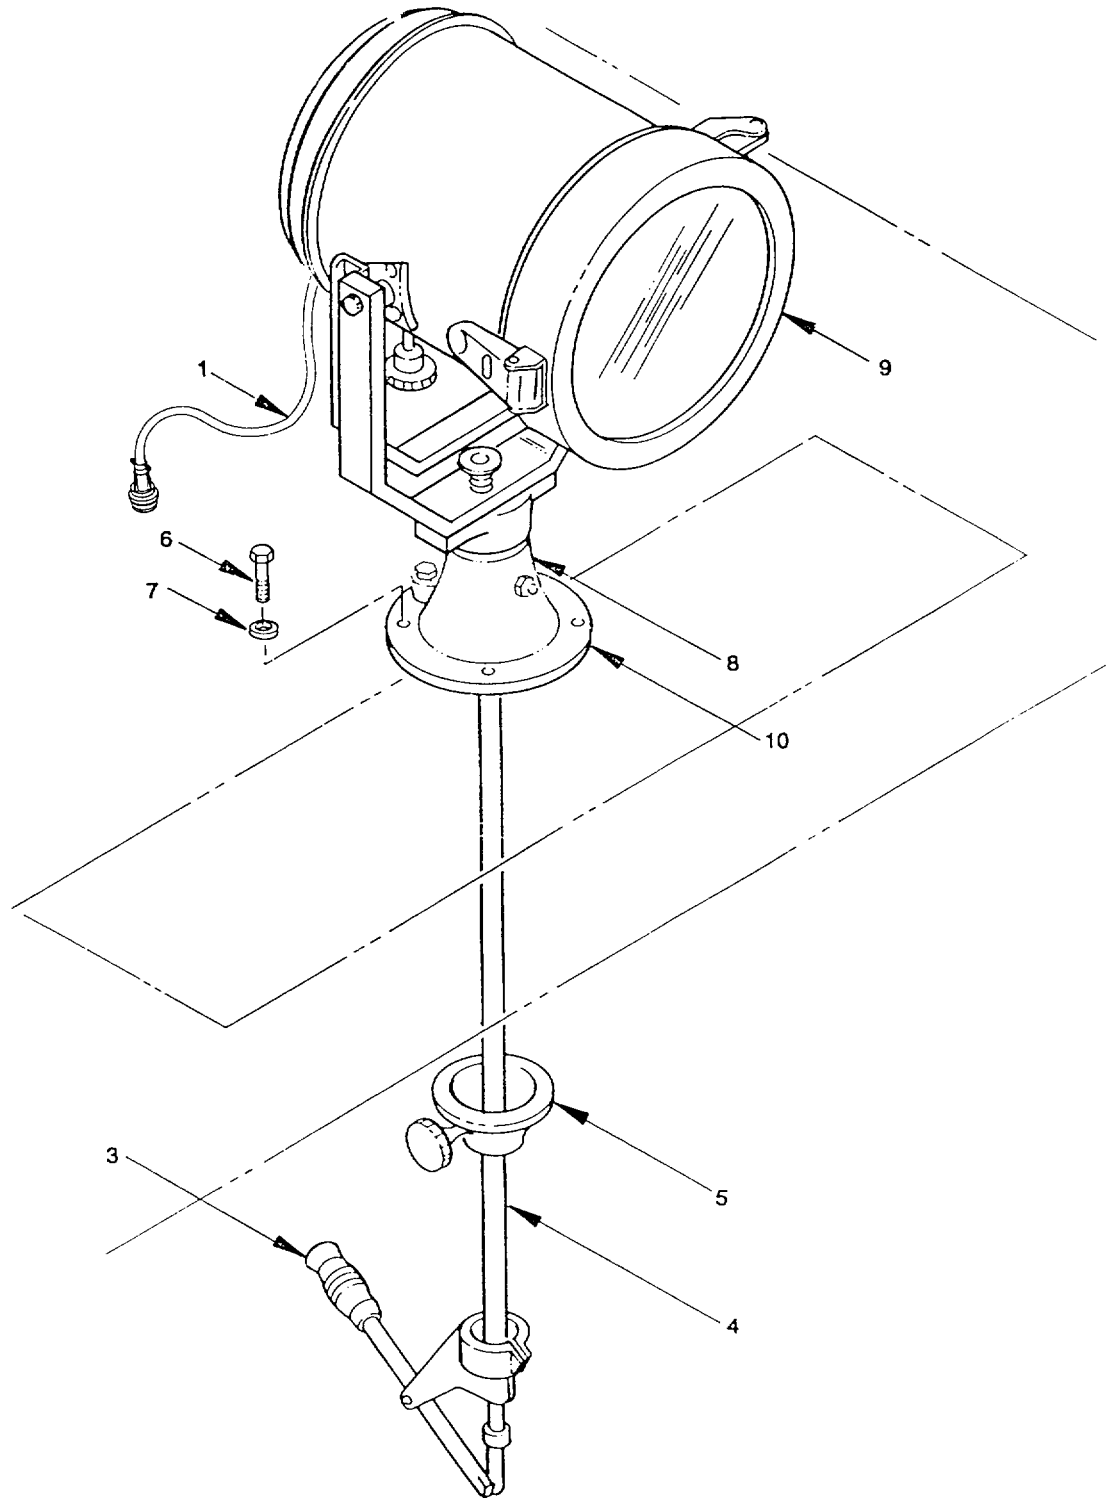

Figure 2-146. Spotlight. Remove/Install.
- (1) Monthly, lightly lubricate the connecting link (1), lever pin (2) and push-rod (marked "L") (3) of lever assembly with a few drops of machine oil.
- (2) Every six months, add grease through the grease fitting (4) provided in the roof flange. This will provide added water protection.
c. Remove. (figure 2-146)
- (1) Disconnect the electrical cable (1) to the spotlight (9) at the junction box JB1 (located inside the cab). Refer to Appendix G.
- (2) Remove the control lever (3) from the bottom of the spotlight control tube (4). Remove the lower flange (5) (located inside the cab) from the control tube (4).
- (3) Remove capscrews (6) and lock washers (7) securing the upper flange (8) (located on the roof of the cab).
- (4) Pull the spotlight (9), gasket (10), upper flange (8), and control tube (4) out of the roof of the cab.
d. Install. (figure 2-146)
- (1) Position the spotlight (9), gasket (10), upper flange (8), and control tube (4) in the roof of the cab. Replace capscrews (6), lock washers (7) and tighten to secure the upper flange (8) to the roof of the cab.
- (2) Position the lower flange (5) on the control tube (4) inside the cab. Replace the control lever (3) into the bottom of the control tube.
- (3) Connect the electrical cable (1) to the spotlight at Junction Box JB-1 (located inside the cab). Refer to Appendix G. Make sure spotlight cable (1) has sufficient slack for full spotlight rotation and elevation.